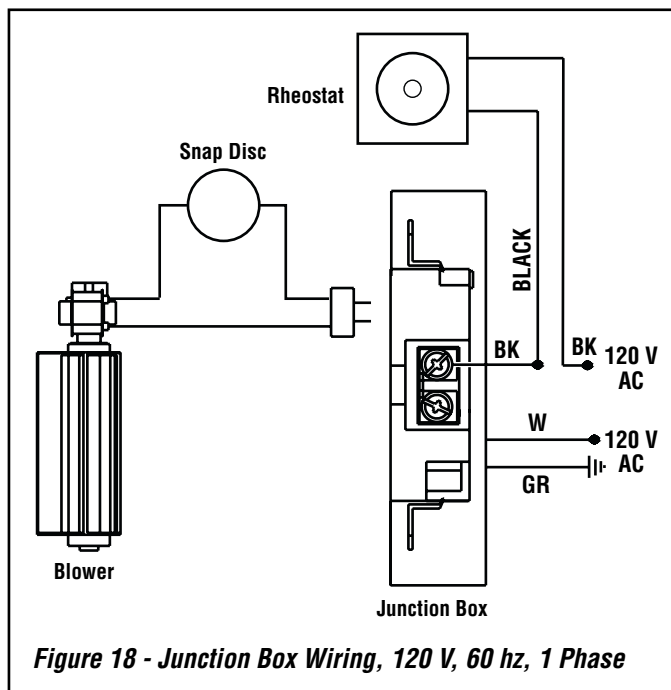

Figure 18 - Junction Box Wiring, 120 V, 60 Hz, 1 Phase
If you wish to adjust the blower speed, the variable speed control (VRUW) provided must be installed in line with the wiring (**Figure 18**). Again, use a qualified electrician for installation.
4. Connect the black power supply wire to the power outlet black lead wire together. Connect the white power supply wire and the power outlet white lead wire together (**Figure 18**).
5. Connect the ground supply wire to the green lead wire attached to the outlet's green ground screw (**Figure 18**). Restrain the inlet power lead per NEC or local codes.